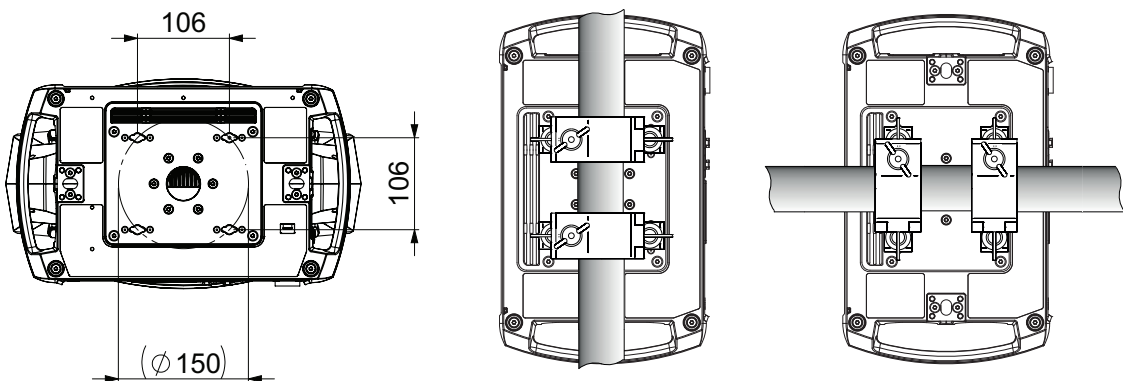

Figure 3: Clamp bracket positions
The mounting points in the base allow omega brackets and rigging clamps to be fastened as shown in Figure 3.
3. See Figure 3 on page 8. Align the first clamp and bracket with 2 mounting points in the base, and engage both the clamp bracket's quarter-turn fasteners in corresponding sockets in the base. See Figure 4. Turn the levers on the quarter-turn fasteners a full 90° clockwise to lock. Repeat for the second clamp.